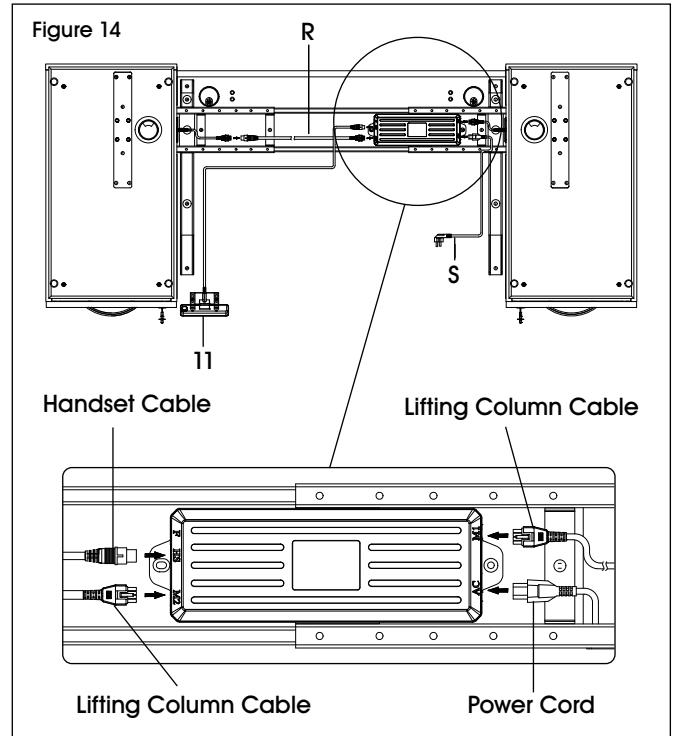

Figure 14
14. Connect the power cord (S), programmable handset (11) and lifting column cables to the control box (9). (See Figure 14)
**NOTE:** Use extension wire (R) to connect one of the lifting column cables.